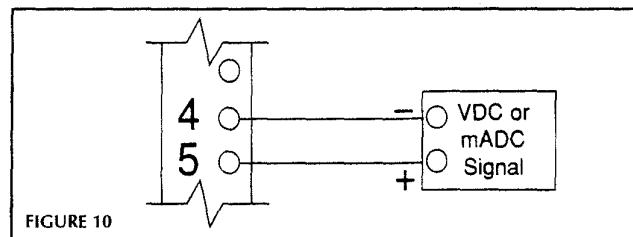

FIGURE 10
A. Control Input - Interpreted by the humidifier as a demand of output signal. Input device should be linear. Unit can accept any VDC or mADC signal within a range of 0-20 VDC or mADC (See Fig. 10). Unit may also accept a resistive signal 0-135 ohms (See Fig. 11).